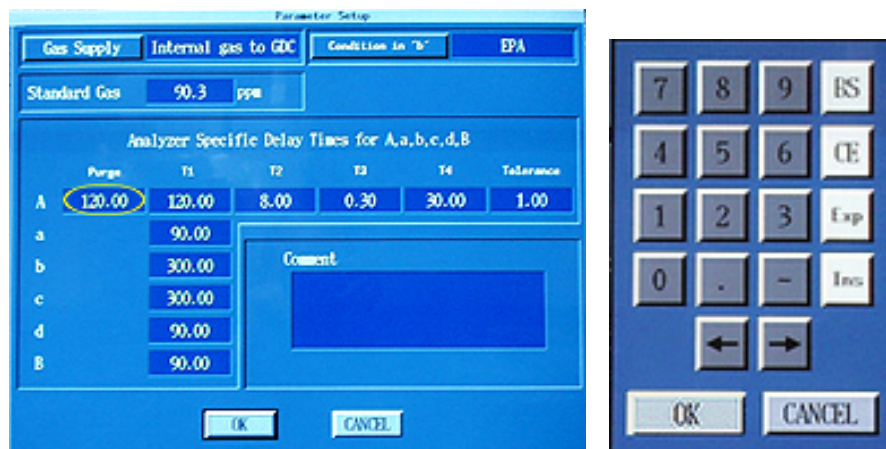

Figure 23
- 130 On the "Parameter Setup" menu, under “Analyzer Specific Delay Times for A, a, b, c, d, B,” verify that the yellow highlighted "Purge" field contains "60." See the circle in Figure 23. If not, click in the field and use the on-screen keypad to enter the correct data. See Figure 23. On the keypad, click on “OK.”